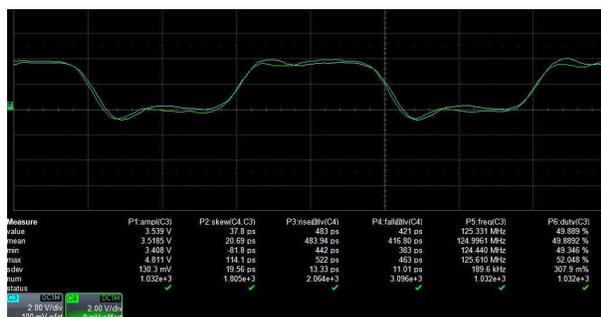

Figure 3-1. TXV Outputs (5 pF 1.8 V to 3.3 V Up Translation at 125 MHz, 25°C)
- Figure 3-1 measures the rise-to-rise output channel-to-channel skew for A-to-B direction rising-edge input under standard RGMII loading condition of 5 pF for TXV (measuring 21 ps, tighter skew) vs competitor (measuring approximately 6x looser skew).